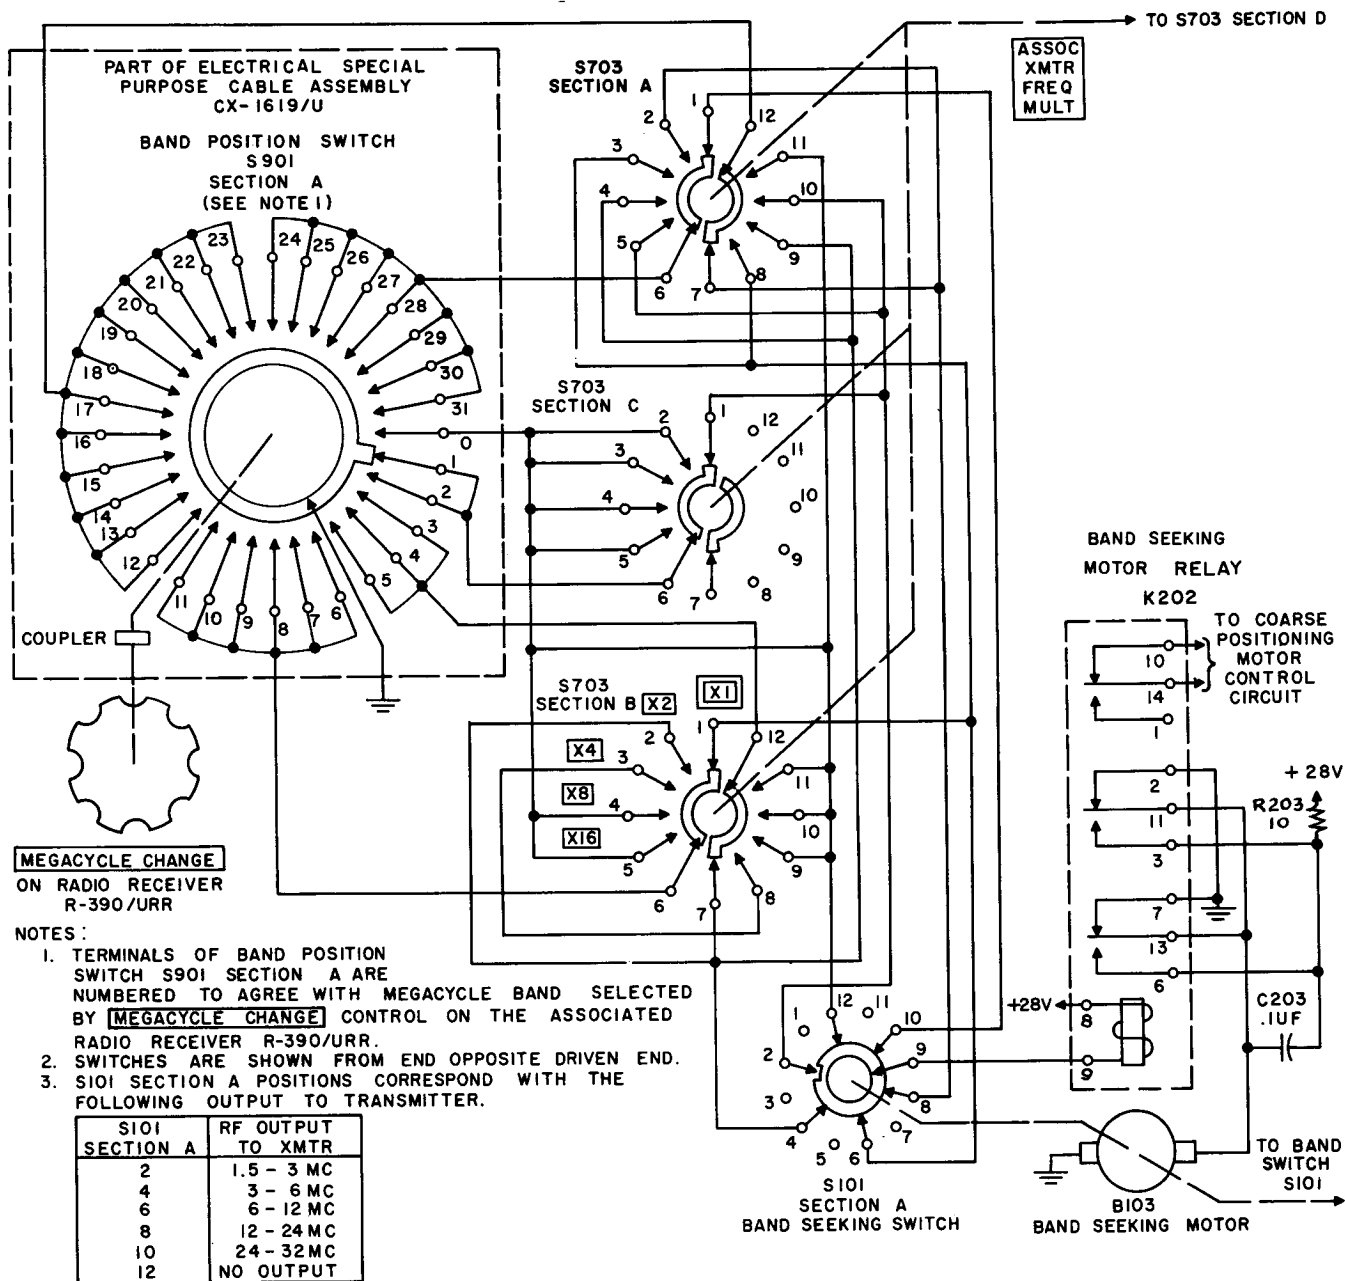

Figure 67. Band seeking motor circuit, simplified schematic diagram.
102. Band Seeking Motor Control Circuit (fig. 67)
a. The band position switch S901 section A is located in the band switch adapter termination of Electrical Special Purpose Cable Assembly CX-1619/U. This cable attaches to the rear of the associated Radio Receiver R-390/URR. The switch mechanically couples to the MEGACYCLE CHANGE control gear train of the radio receiver through the SYNC XTAL OSC shaft positioning slot on the rear of the radio receiver. The gear train of the radio receiver, along with gear linkage in the special purpose cable termination, translates the position of the MEGACYCLE CHANGE control of the radio receiver into one of 32 switch positions. In figure 67, terminal numbers of band position switch S901 section A indicate the megacycle position of the MEGACYCLE CHANGE control. The rotor of the band position switch provides the ground for the band seeking motor control circuit and the circuit continues from the terminals of the switch through the ASSOC XMTR FREQ MULT switch S703 sections A, B and C to the band seeking switch S101 section A. Changing the position of the MEGACYCLE CHANGE control results in a corresponding change in the rotor position of S901 section A. However, a band switching operation does not result when the MEGACYCLE CHANGE control is moved between 1 mc and 3 mc, between 3 mc and 6 mc, between 6 mc and 12 mc, between 12 mc and 24 mc, or between 24 mc and 32 mc.